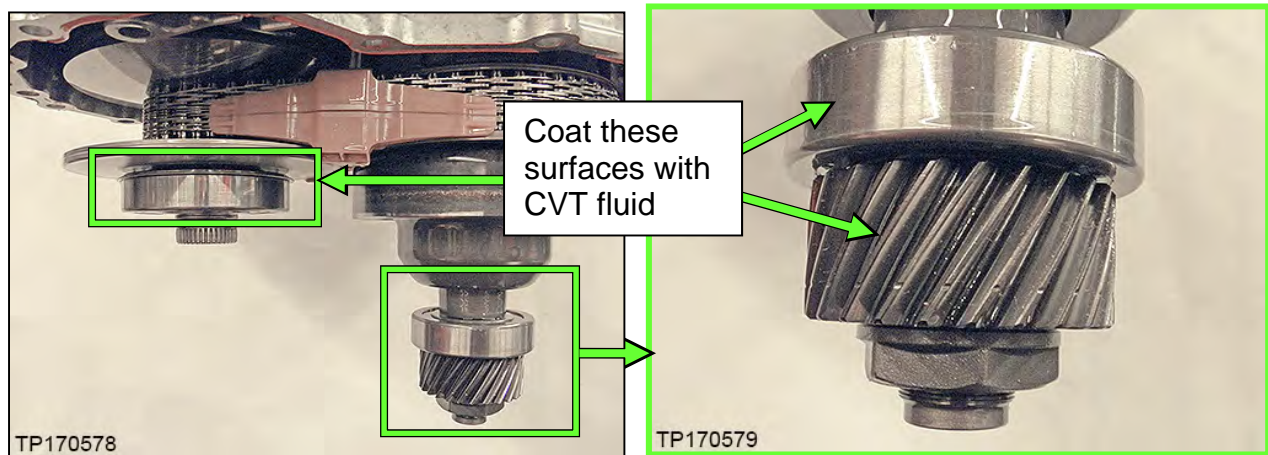

Figure 90
67. Coat the primary pulley bearing, secondary pulley gear teeth and the secondary bearing with CVT fluid prior to installation (Figure 90).